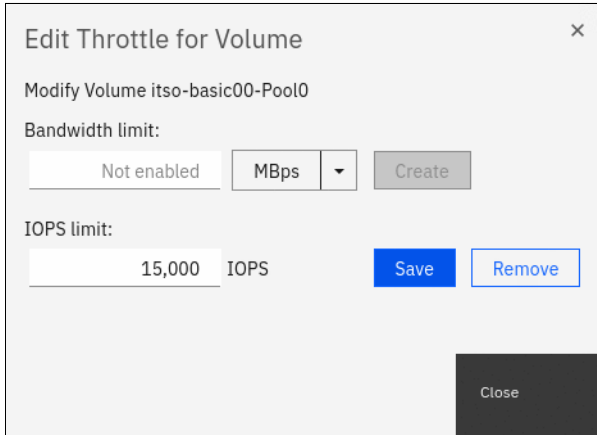

Figure 6-37 Modifying a volume throttle
- To modify the volume throttle, enter new throttling parameters and click **Save**, as shown in Figure 6-37. In this example, the I/O throttling limit is increased to 15,000 IOPS.